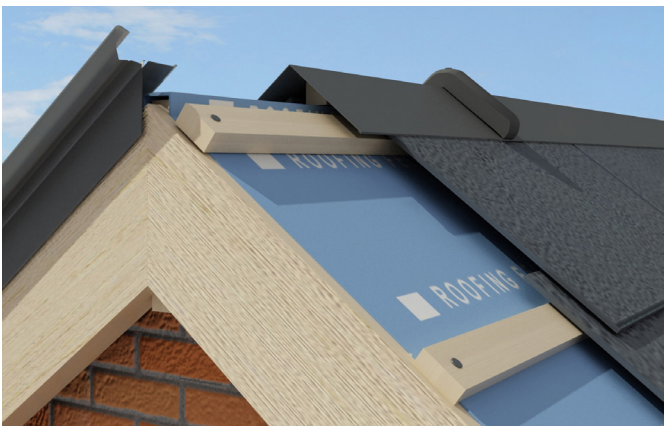

Fig.8.
3. Nail the left hand trim into place (Fig. 8).